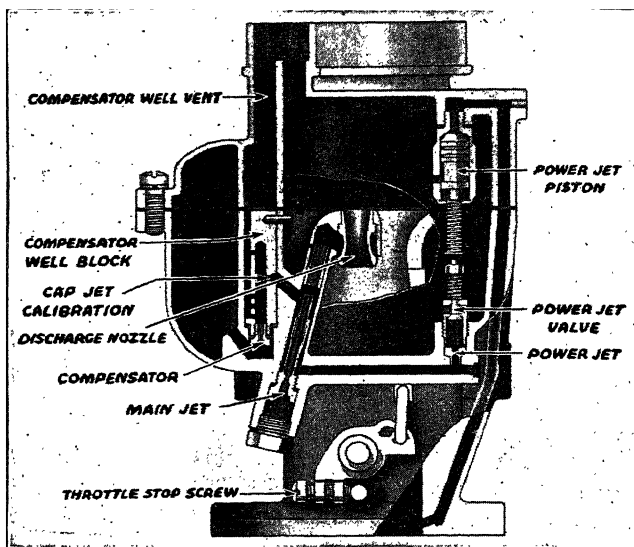

Fig. 41. Sectioned View Model IN-180 Zenith
**Carburetor Operation.** The Zenith compound nozzle system is used. This consists of two jets, the main jet and the compensating jet as shown in Fig. 41. The main jet varies with suction. Its tendency is to richness at top engine speed. The compensating jet, unaffected by suction, has a tendency to leanness at top engine speeds.